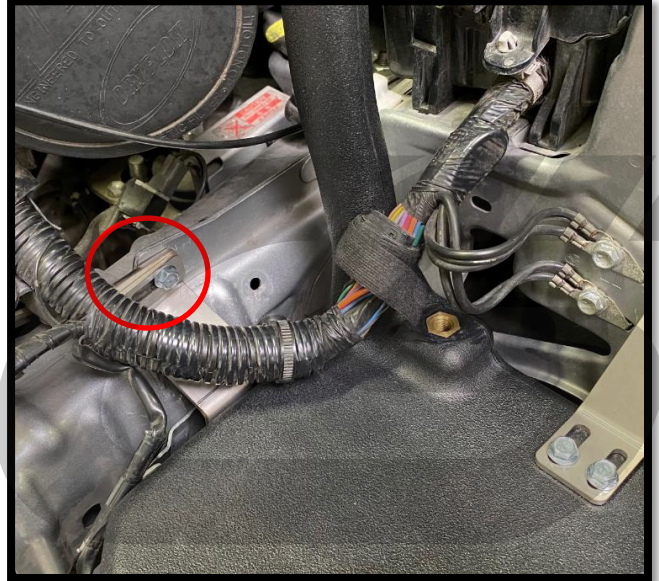

Figure 5f
- e) Secure the upper side bracket to the upper frame rail mounting location that was prepared earlier. Use the supplied slotted washer and an M6x1.0x16mm bolt (2007-2009 MS3 owners will also use an M6 nut). Hand tighten this location as shown in **Figure 5f**.